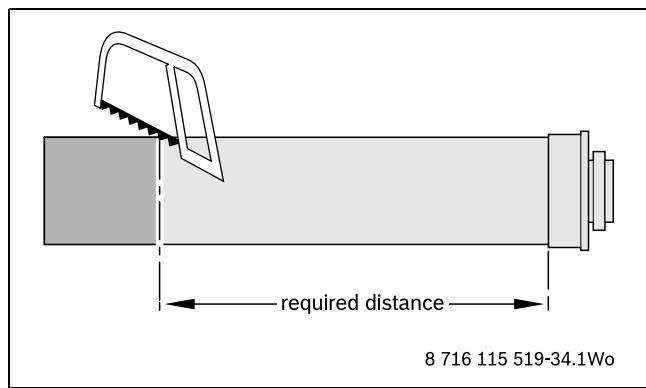

Fig. 33 Cutting a flue extension
- Mark the flue extension to the required distance, measuring from the socket end as shown in fig. 33.